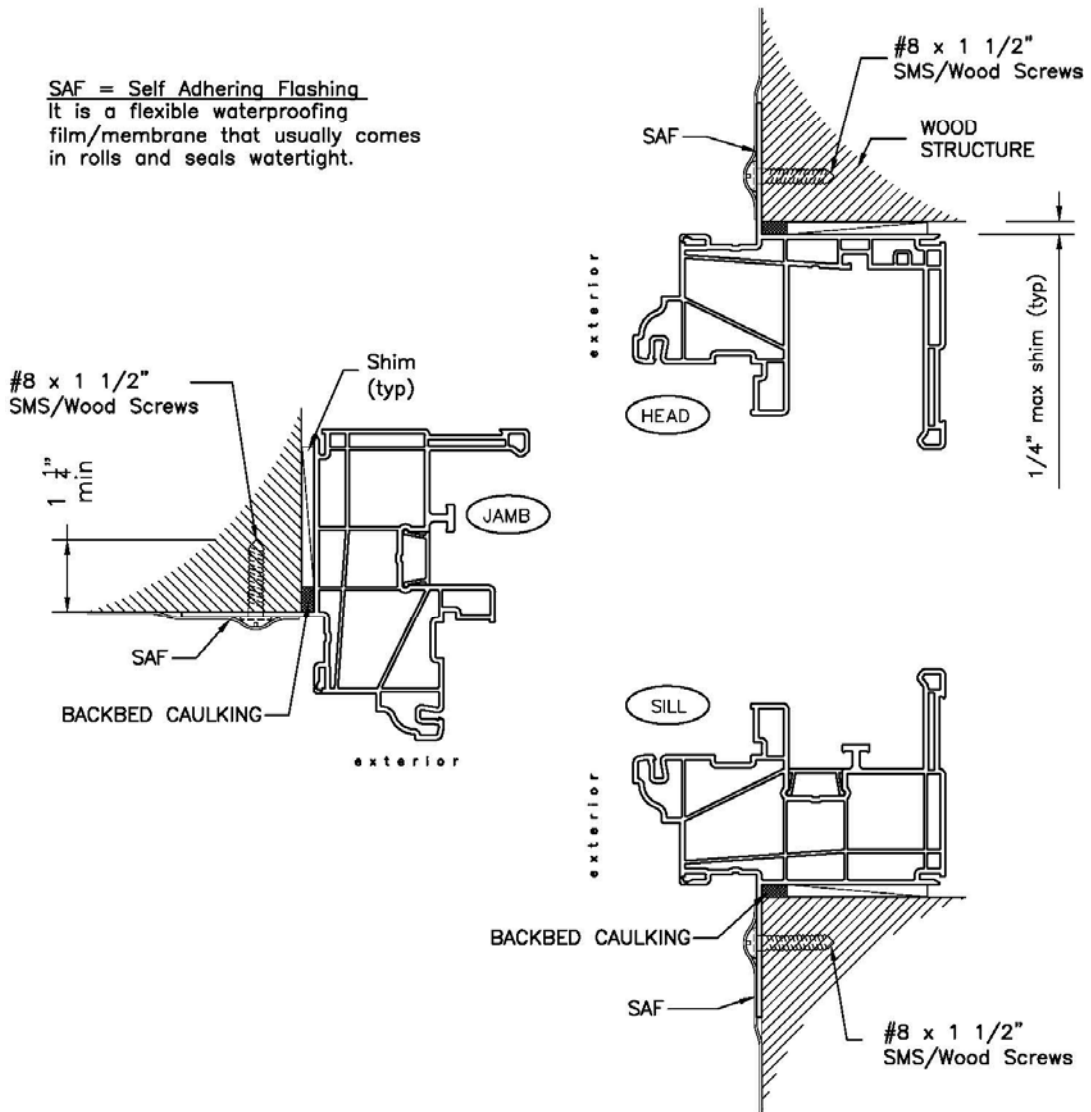

Figure 10: Installation type "D" using Fin Frame
5. Secure window using installation screws as selected from the approval documents for your specific application (see figure 10). Shim window to main structure at every installation screw location (shim space should not exceed 1/4"). You can secure the window with a few screws at first to make sure